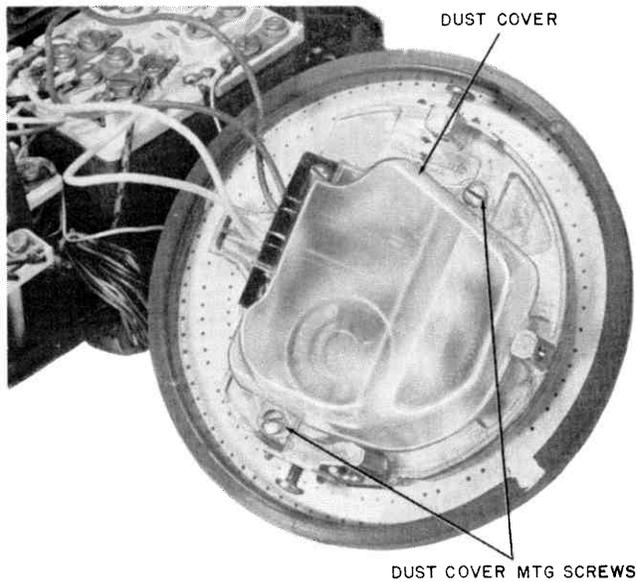

Fig. 24 — 7-Type Dial Removed from Set
- (1) Remove housing from set.
- (2) Remove dial from dial mounting (Fig. 24). It is not necessary to disconnect spade tip conductors.